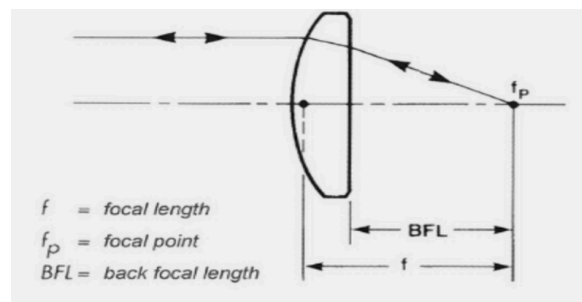

Figure 6.1. Focus point illustration of plano-convex lenses
1. Shine the laser beam through a plano-convex lens as in Figure 6.1.